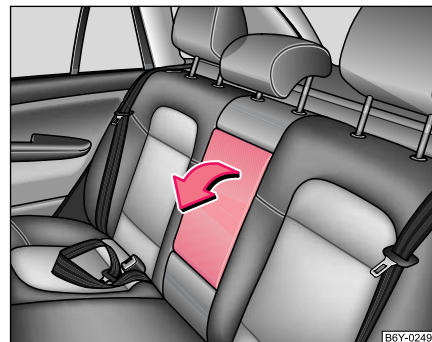

Fig. 76 Rear seats: Armrest
- You can fold down the armrest to enhance occupant comfort ⇒ **fig. 76**.